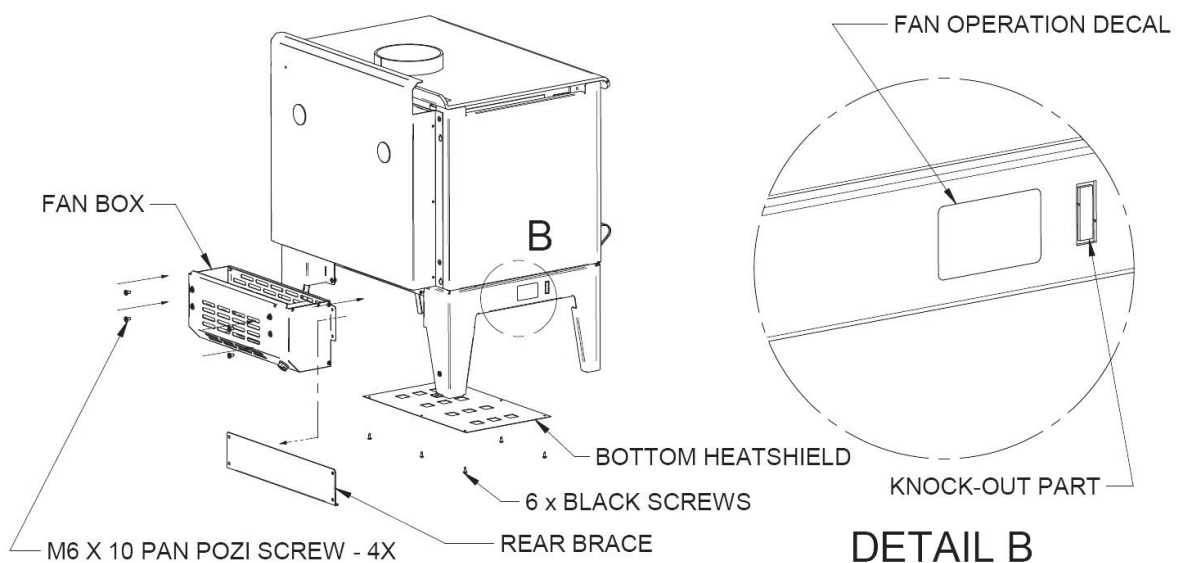

Figure 4. Leg version installation
LEG VERSION (Figure 4)
3. Stick the fan operation decal next to this hole. Remove the rear brace from the back of the heater, as shown in Figure 4 and discard this part.
6. Remove bottom heatshield by unfastening 6 black screws ref. Fig 4.
8. Continue to feed the end through the knockout fan switch hole, shown in Fig 4 Detail B.
9. Fasten fan assembly into position and fit to the back of the leg with 4 black screws supplied. For ease of fitment, put the top screws first, then the bottom ones as shown in Figure 4.
13. Refit the bottom heatshield by fastening 6 black screws ref. Fig 4.